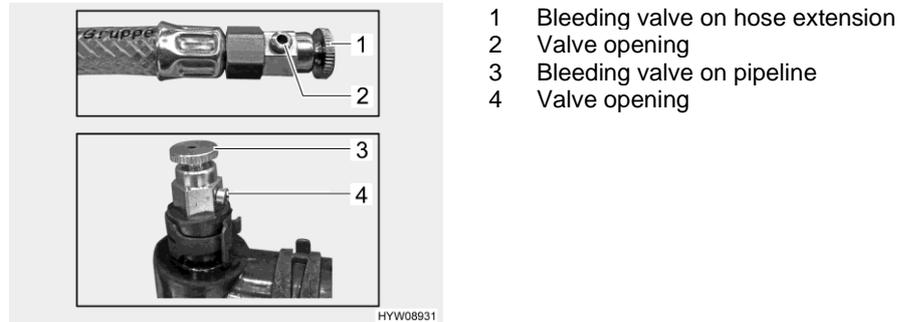

Fig. 175 Bleeding valves (hot-water heater)
- Open the bleeding valve (Fig. 175,1 or 3) and keep it open until no more air comes out of the valve opening (Fig. 175,2 or 4).